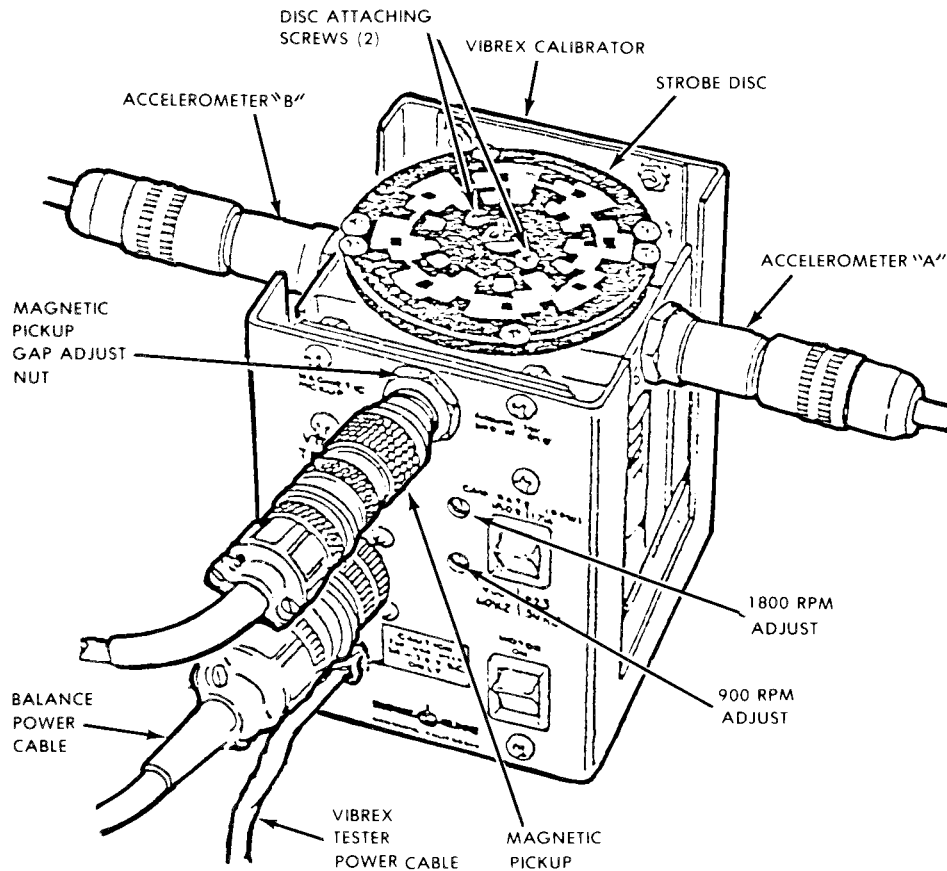

Figure 3-2 Tester, Accelerometer and Magnetic Pickup Installation
- (1) Install two Accelerometers and a Magnetic Pickup on the Tester as shown in figure 3-2. Screw Magnetic Pickup in until it just touches the interrupter screws. Then, back out about one flat (1/6 turn) to provide clearance. Tighten jam nut on pickup.
- (2) Connect Magnetic Pickup and Accelerometer Cables as shown in figure 3-2. Dress the Accelerometer Cables around behind the Tester so there is no force from the cables that might pull the cam followers away from the cam.
- (3) Connect Balancer Power Cable to the Tester and ensure Tester Power Cable is still connected to +28 vdc power source,
- (4) Set Balancer controls as follows:
- (C) RPM RANGE to X10.
- (5) Adjust Tester as follows:
- (b) Set CAM RATE (RPM) switch to 1800 and observe that the black and white outer ring of segments on the strobe disc appear to be stopped when illuminated by 60 Hz fluorescent room lights. If the segments are not stopped under 60 Hz fluorescent lighting, adjust 1800 RPM adjust (fig. 3-2) until the outer ring of black and white segments appear to be stopped.
- (c) Set Tester CAM RATE (RPM) and Balancer RPM Tune to 900. RPM RANGE to XI. Observe that the second ring of black and white segments on the strobe disc appear to be stopped when illuminated by 60 Hz fluorescent room lights. If segments are not stopped under 60 Hz fluorescent lighting, adjust 900 RPM adjust (fig. 3-2) until these second ring of black and white segments appear to be stopped.